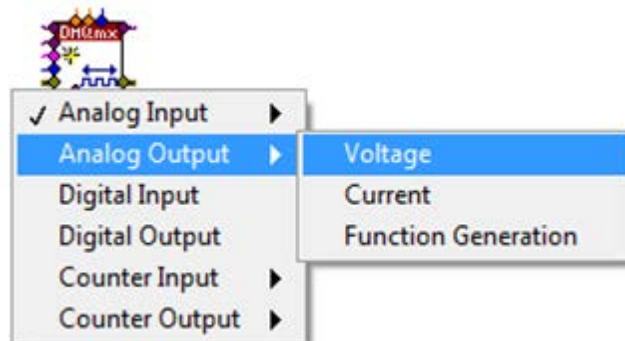

Figure 25. The polymorphic DAQmx Create Channel VI can be configured to create an analog output value.
7. Like in the previous exercise, drag the following VIs onto the block diagram and place them like you see in Figure 25.